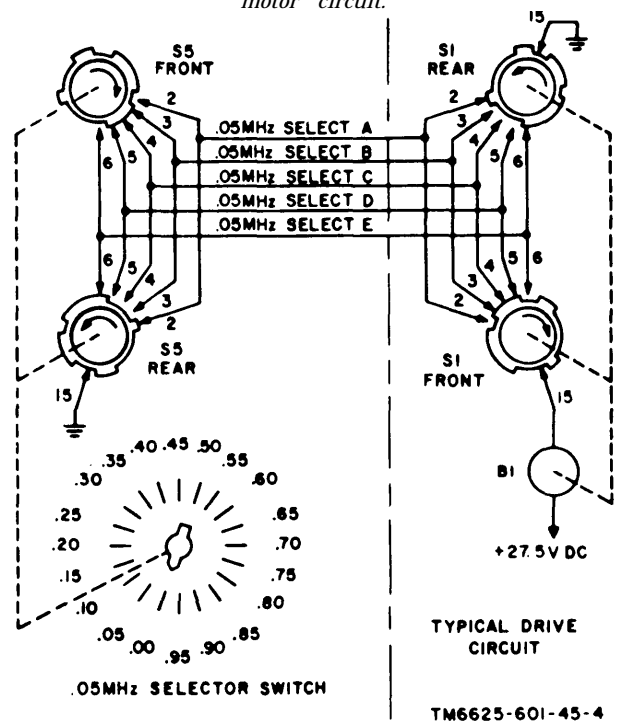

Figure 1-4. Simplified .05 megahertz selector switch and typical drive circuit.
*c. Simplified 0.05-Megahertz Switching.* Switch S5 selects fraction megahertz in steps of 0.05 megahertz. Figure 1-4 shows the 0.05-megahertz selector switch connected to a typical drive circuit. Switch S5 is shown in the .00 position. In this position, 0.05-megahertz select lines A and E are grounded by switch S5 (rear). Drive motor B1 has positioned switch S1 so that 0.05-megahertz select lines A and E, connected to contacts 2 and 6 of switch S1 (front), respectively, are open. Setting switch S5 to .05 applies ground through switch S5 (rear) to 0.05-megahertz select line B. Ground from 0.05-megahertz select line B, applied through contact 3 of switch S1 (front), energizes motor B1; this turns switch S1 in the direction shown by the arrows. When contact 3 reaches the open segment of switch S1 (front), the ground circuit